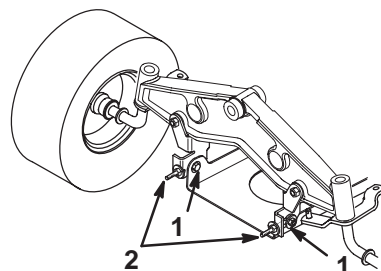

Figure 51
13. Slightly loosen the front pivot plate mounting bolts (Fig. 51).
14. Rotate the locknuts on the eyebolts to change the adjustment (Fig. 51).
15. After adjusting both of the eyebolt locknuts evenly, check the front-to-rear slope again. Continue adjusting the eyebolts until the front blade tip is 0 to 3/8 in. (0 to 9 mm) lower than the rear blade tip (Fig. 51).
16. When the front-to-rear slope is correct, tighten the pivot plate mounting bolts (Fig. 51).